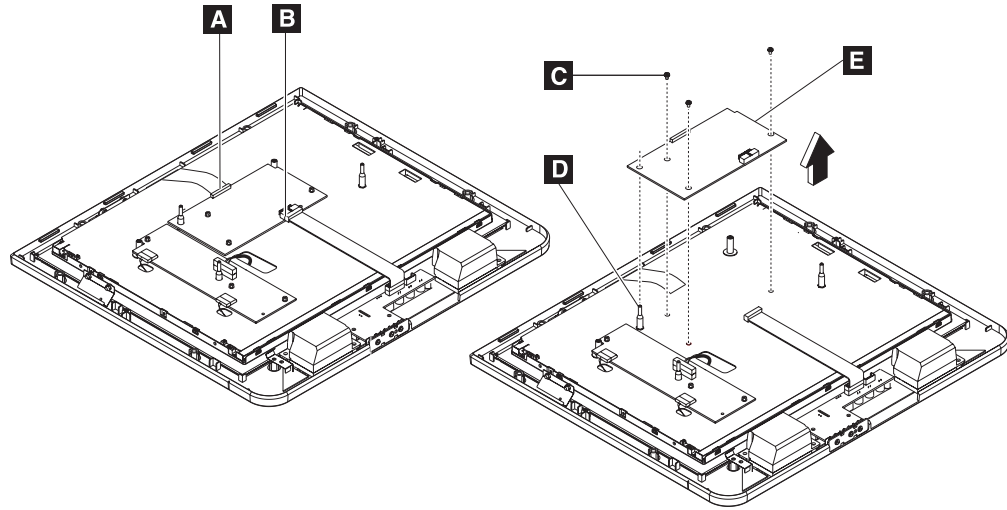

Figure 27. Removing the front panel card
3. See Figure 27. Disconnect the speaker connections from the card ( **E** ).
- Touch cable (see **A** in Figure 27 on page 40)
- Control card cable (see **B** in Figure 27 on page 40)